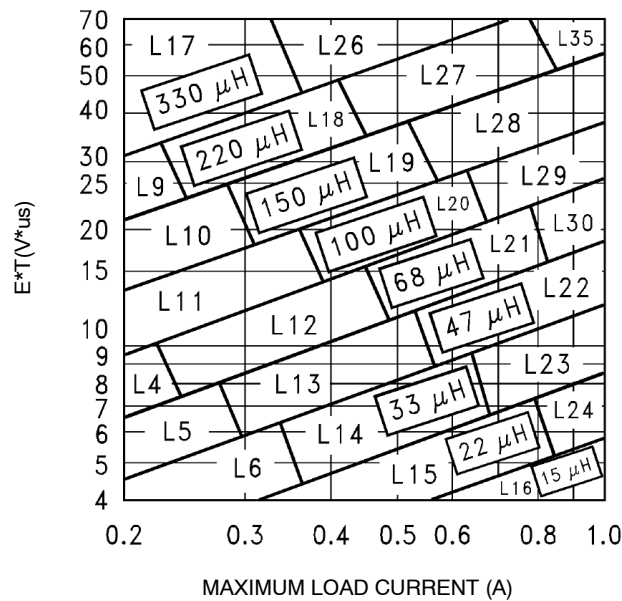

Figure 19. Inductor Value Selection Guides (For Continuous Mode Operation)
4. Inductor Selection (L₁) A. Use the following formula to calculate the inductor Volt x microsecond [V x μs] constant: $E \times T = (V_{IN} - V_{OUT} - V_{SAT}) \times \frac{V_{OUT} + V_D}{V_{IN} - V_{SAT} + V_D} \times \frac{1000}{150 \text{ kHz}} (V \times \mu s)$ B. Match the calculated E x T value with the corresponding number on the vertical axis of the Inductor Value Selection Guide shown in Figure 19. This E x T constant is a measure of the energy handling capability of an inductor and is dependent upon the type of core, the core area, the number of turns, and the duty cycle. C. Next step is to identify the inductance region intersected by the E x T value and the maximum load current value on the horizontal axis shown in Figure 19. D. Select an appropriate inductor from Table 3. The inductor chosen must be rated for a switching frequency of 150 kHz and for a current rating of 1.15 x I_{Load}. The inductor current rating can also be determined by calculating the inductor peak current: $I_{p(max)} = I_{Load(max)} + \frac{(V_{in} - V_{out}) t_{on}}{2L}$ where t_{on} is the "on" time of the power switch and $t_{on} = \frac{V_{out}}{V_{in}} \times \frac{1.0}{f_{osc}}$	4. Inductor Selection (L₁) A. Calculate E x T [V x μs] constant: $E \times T = (12 - 5 - 1.0) \times \frac{5 + 0.5}{12 - 1 + 0.5} \times \frac{1000}{150 \text{ kHz}} (V \times \mu s)$ $E \times T = (6) \times \frac{5.5}{11.5} \times 6.7 (V \times \mu s)$ B. E x T = 19.2 [V x μs] C. I_{Load(max)} = 1.0 A Inductance Region = L30 D. Proper inductor value = 68 μH Choose the inductor from Table 3.
To simplify the inductor selection process, an inductor selection guide for the LM2595 regulator was added to this data sheet (Figure 19). This guide assumes that the regulator is operating in the continuous mode, and selects an inductor that will allow a peak-to-peak inductor ripple current to be a certain percentage of the maximum design load current. This percentage is allowed to change as different design load currents are selected. For light loads (less than approximately 300 mA) it may be desirable to operate the regulator in the discontinuous mode, because the inductor value and size can be kept relatively low. Consequently, the percentage of inductor peak-to-peak current increases. This discontinuous mode of operation is perfectly acceptable for this type of switching converter. Any buck regulator will be forced to enter discontinuous mode if the load current is light enough.